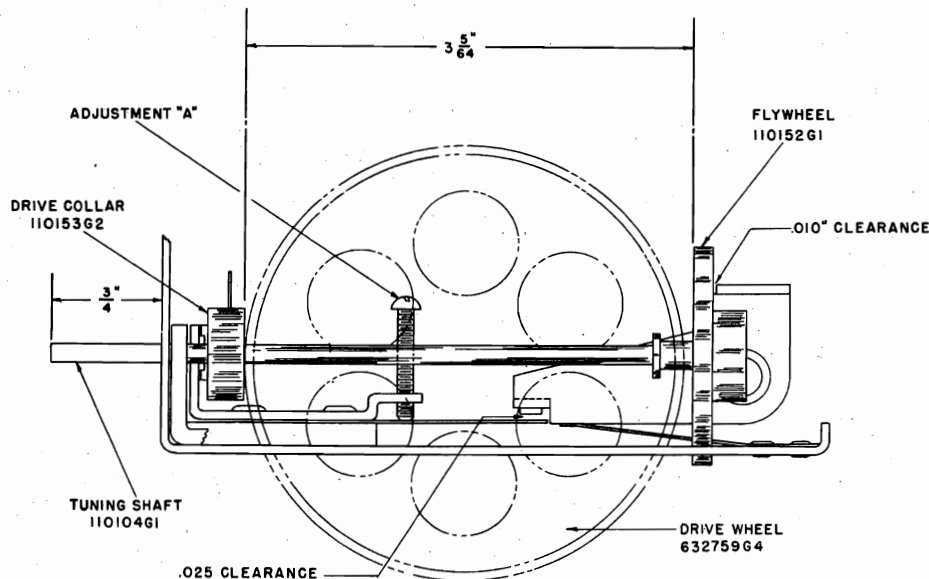
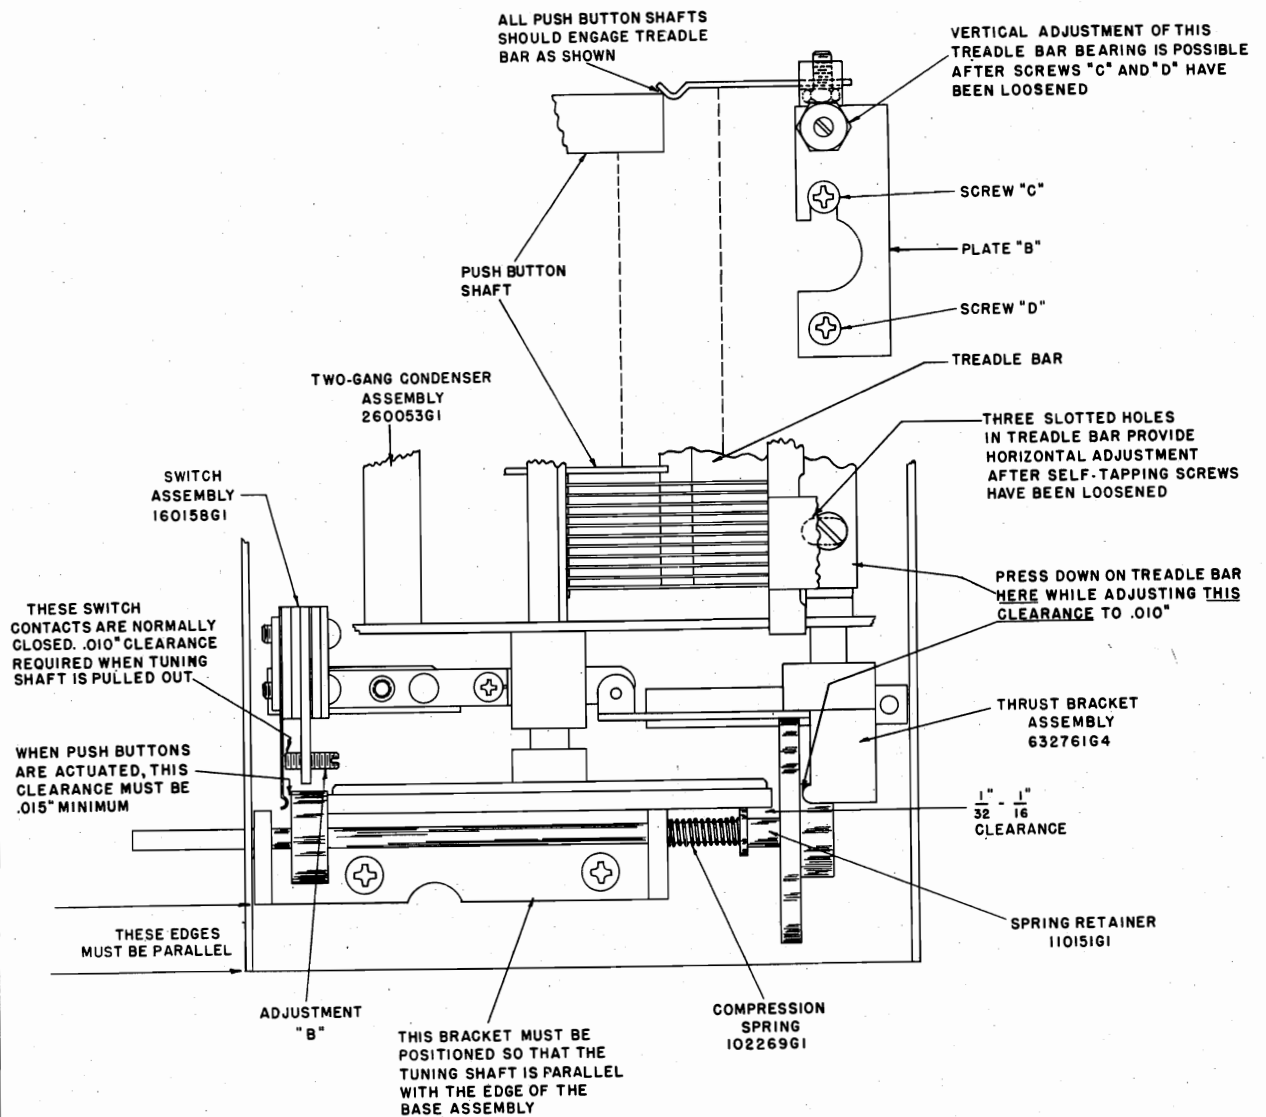

FIGURE 2
FIGURE 3
Whenever any of the mechanical parts in the condenser gang drive assembly require replacement due to rough handling or for any other reason, it is extremely important that clearances and adjustments shown on Figures 2 and 3 are affected; otherwise the tuning mechanism will be sluggish or it may slip during operation.
1. Assemble the Tuning Shaft, Drive Collar, Compression Spring, Spring Retainer and Flywheel in the manner shown on Figure 3. The Tuning Shaft must extend $\frac{3}{4}$ " from the front of the assembly and that the spacing between the rear of the Drive Collar and the front of the Flywheel must be $3\frac{5}{64}$ " as specified on Figure 2. Any excess length in the Tuning Shaft may extend beyond the rear of the Flywheel.
2. The distance between the rubber-tired Drive Wheel and the smaller diameter section of the Spring Retainer must be $\frac{1}{32}$ " to $\frac{1}{16}$ ". This adjustment is effected by loosening the two No. 6 Allen set screws in the Drive Wheel hub and sliding the wheel on its shaft until the required clearance is obtained. When the adjustment is completed, tighten the two screws in the hub of the Drive Wheel. See Figure 3.
3. While pressing down on the Treadle Bar at the location shown on Figure 3, adjust the Thrust Bracket until the clearance between the rear of the Flywheel and the projection on the Thrust Bracket is $.010$ " as shown on the diagram. To make this adjustment, loosen the two No. 6 Allen set screws (use No. 6 Allen Wrench—Magnavox Part No. 800044G2) in the hub of Thrust Bracket and rotate the bracket until the specified clearance is obtained when the push buttons are NOT actuated. Tighten the two screws securely when the adjustment is completed. Press each push button and check that the Drive Collar is pushed away from the rubber-tired Drive Wheel.
4. Next, adjust the clearance in the muting switch contacts by turning the Phillips-head screw designated Adjustment "A" on Figure 2, until the specified clearance of $.025$ " is obtained (when the push but-
5. While pressing any one of the push buttons in as far as possible, turn the screw designated Adjustment "B" (Figure 3) until a minimum clearance of $.015$ " is obtained between the front surface of the Drive Collar and the switch spring directly in front of it. This setting should also cause a minimum clearance of $.010$ " between the switch contacts actuated
This can usually be accomplished by loosening the two screws designated "C" and "D" on Figure 3, and moving plate "B" in the direction required to correct this condition.